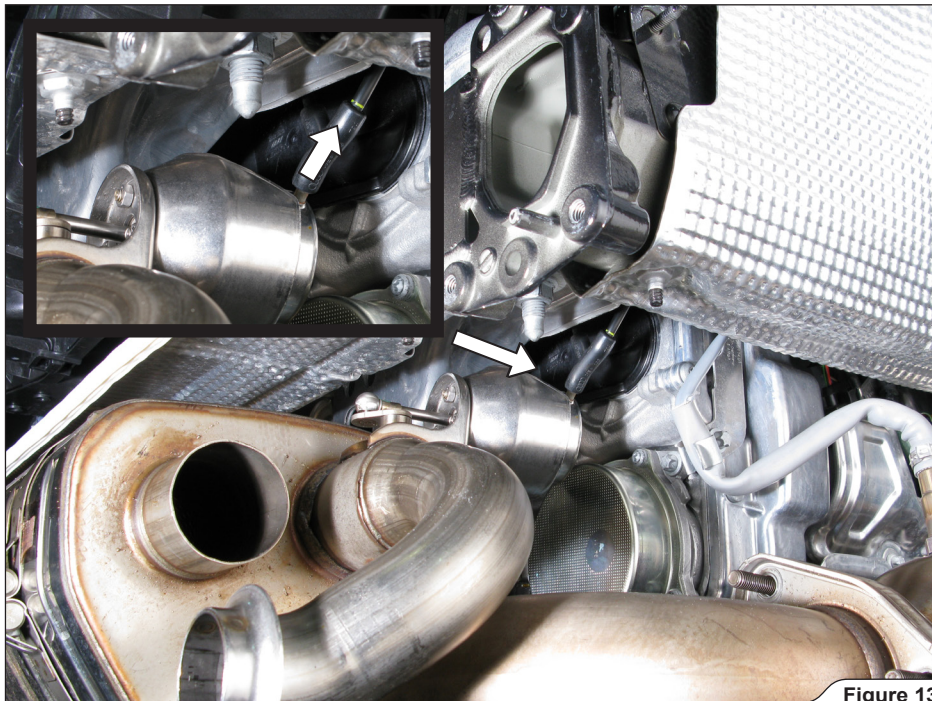

Figure 13
9. Carefully pull the vacuum hoses off the vacuum actuators (**Figure 13**).